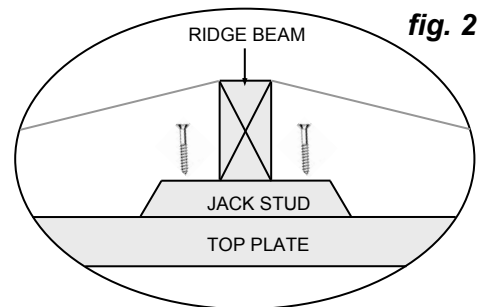

fig. 2
- Secure with 2 x 75mm screws through the top of the Jack Studs into the Timber Top Plate (**fig. 2**).
- Rivet the 2 ridge flashings together using 4 rivets, so total flashing is 2.550m long. Rivet the Ridge Flashing to the centre of the roof using 8 x rivets as shown (**fig.2**).